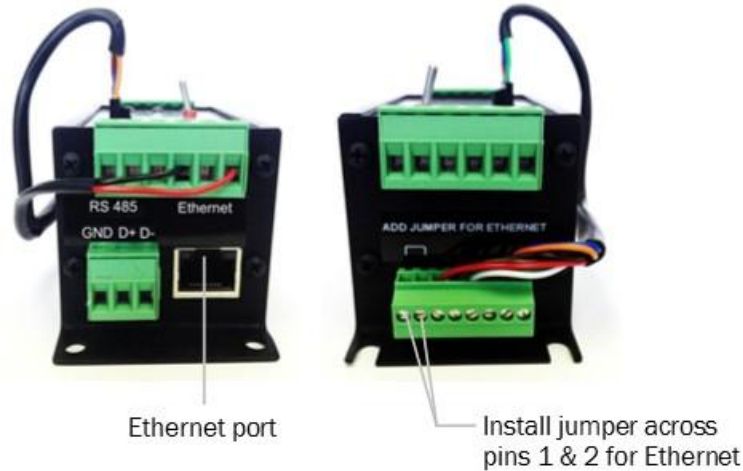

Figure A-16. Ethernet port and pins 1 and 2 of 8-position connector
**NOTE:** If using Ethernet, remember to enable the port using jumper across pins 1 and 2 (see Figure A-16).
If using Ethernet, there should be no wiring to the RS485 connector. A wire jumper must be installed across pins 1 and 2 of the 8-position connector. This jumper will supply power to the Ethernet module. See Figure A-16 below.
1. Using an Ethernet cable, connect your computer to the Ethernet port on the COM module. Ensure that the Ethernet jumper on the 8-position connector is installed across pins 1 and 2. Refer to Figure A-16 (page 51).